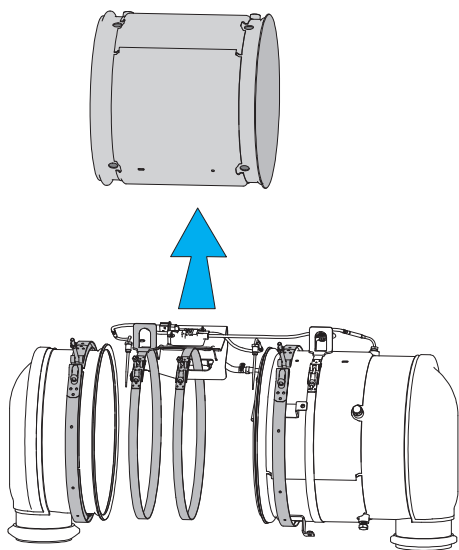

Figure 5-5-23 Detaching Diesel Particulate Filter
3. Disconnect the straps securing the DPF. See Figure 5-5-23.